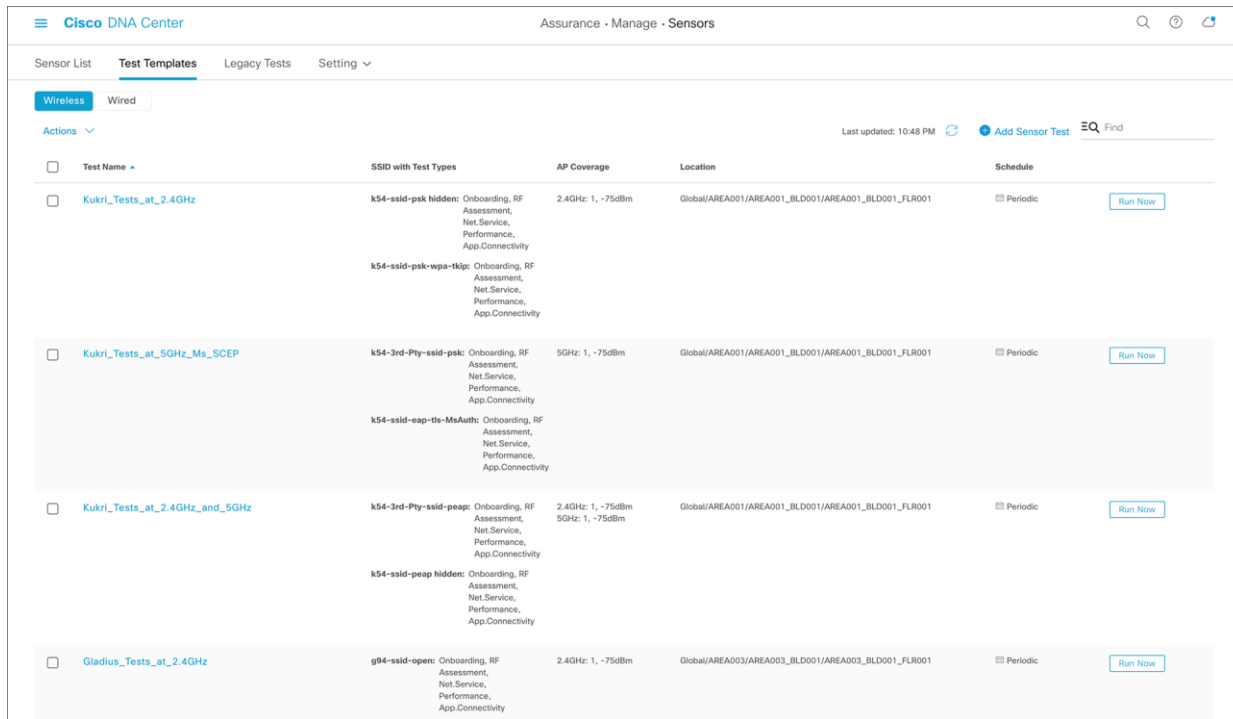

Figure 65.
- To create the test suite, open the hamburger menu and click Assurance > Manage > Sensors, then Test Templates, then Add Sensor Test (**Figure 65**).